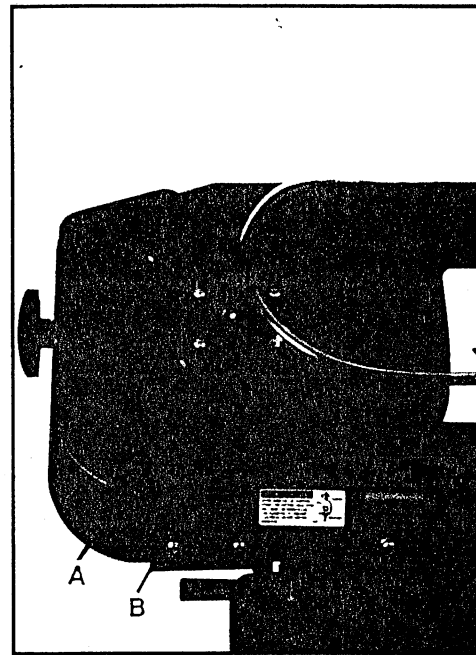

Fig. 12
5. Loosen bolts (A, Fig. 12).
6. Turn set screw (B) while observing blade tracking on wheel. Turn set screw clockwise to track blade closer to the wheel flange. Turn set screw counter-clockwise to track blade away from the wheel flange.
7. Once tracking is set, tighten bolts (A).